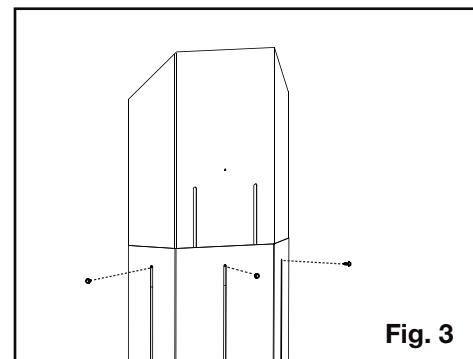

Fig. 3
3. Use the fasteners in step 1 to hold the new vent shield height (**Figure 3**).